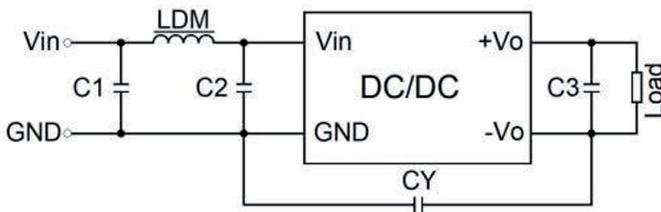

Figure 4
2. EMC typical recommended circuit see figure 4.